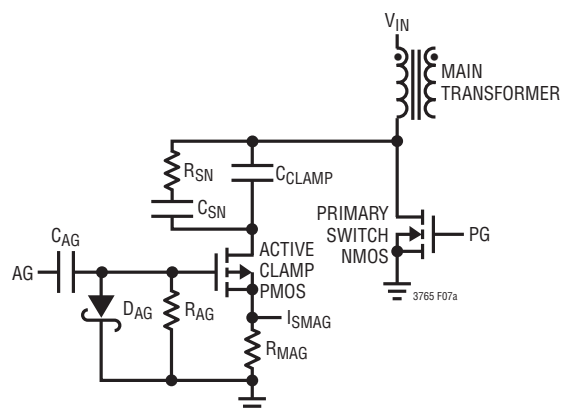

Figure 7a. Traditional AG and PG Driver Configuration
The active clamp gate driver (AG) and the primary switch gate driver (PG) are “in-phase,” with a programmable overlap time set by the DELAY pin. Traditionally in active clamp drivers, the AG driver must be level-shifted as shown in the circuit in Figure 7a to drive the active clamp PMOS gate from approximately V_D to $-V_{CC} + V_D$, where V_D is the forward voltage drop across the Schottky diode D_{AG} . A silicon diode can be used instead of a Schottky barrier diode; however, the forward voltage of the diode does subtract from the available gate drive of the active clamp PMOS. This is particularly important at the minimum V_{CC} UVLO falling threshold.
Unlike the configuration in Figure 7a, the main transformer leakage current spike and magnetizing current return to the V_{CC} bypass capacitor. The V_{CC} capacitor should be increased to prevent excessive ripple on the supply and a low impedance plane should be used to route V_{CC} . The
The LTC3765 and LTC3766 implement a new unique system for monitoring and directly limiting the flux accumulation in the transformer core. During a reset cycle, when the active clamp PMOS is on, the magnetizing current is sensed by a resistor (R_{MAG}) connected to the source of the PMOS. The voltage across this resistor is sensed by the I_{SMAG} pin. Both the traditional and alternative configurations for the active clamp driver, shown previously in Figures 7a
In addition to voltage rating, another design constraint on C_{CLAMP} occurs because of the resonance between the magnetizing inductance of the main transformer with the clamp capacitor. The magnetizing inductance L_{MAG} and C_{CLAMP} form a high-Q resonant system that results in a sinusoidal ripple on the capacitor voltage. **To avoid the problems associated with this resonance, always use an RC snubber in parallel with the clamp capacitor as shown in Figures 7a and 7b.** Choose values for the clamp